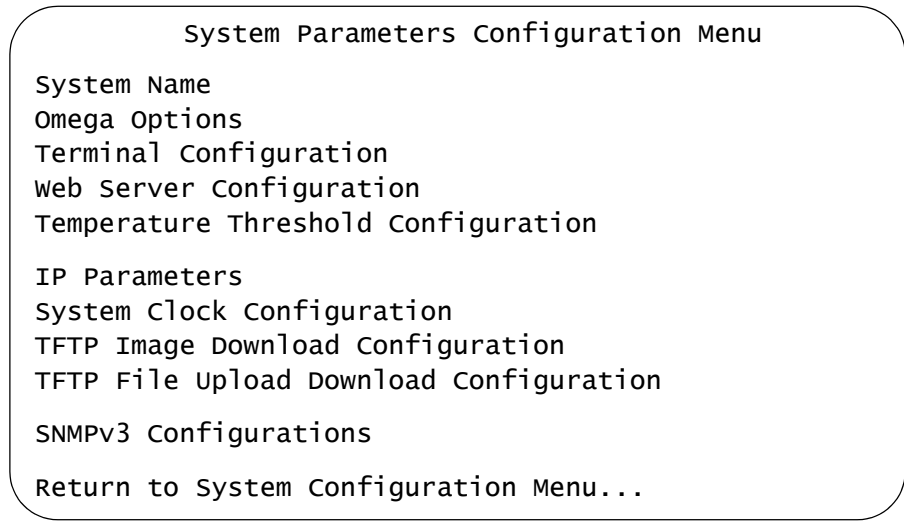

Figure 28. System Parameters Configuration Menu
3. Select **System Parameters Configuration** to display the menu in Figure 28.
3. From the System Configuration Menu, select **System Parameters Configuration** to display the menu in Figure 28 on page 101.